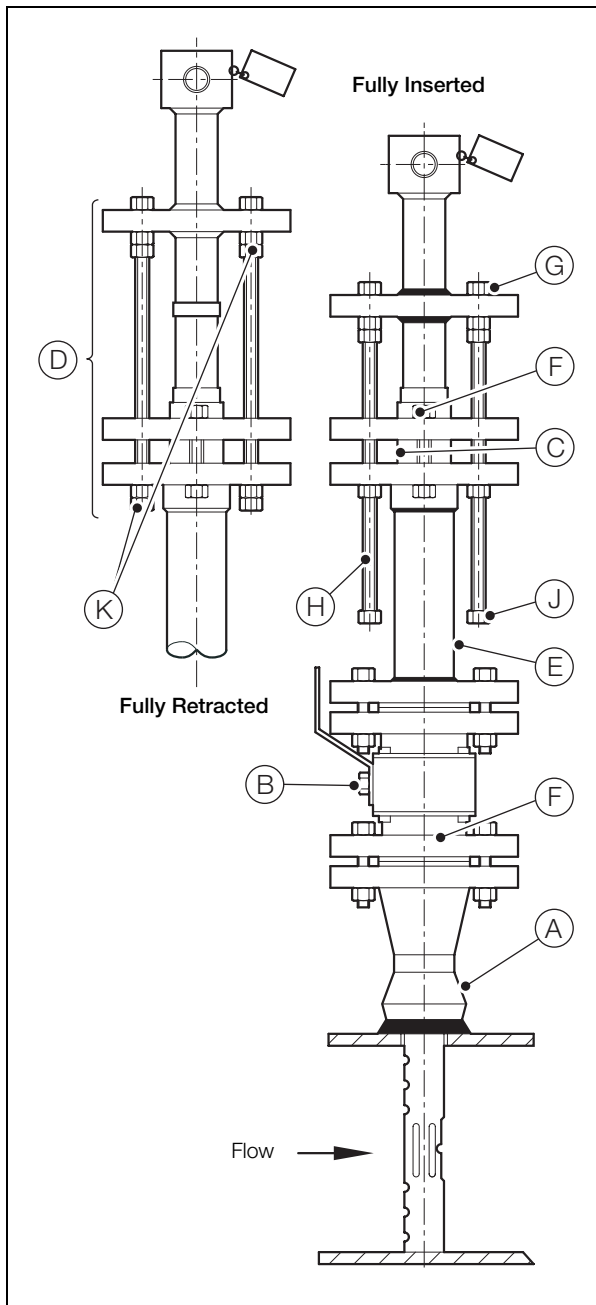

Fig. 2.15 Models H611, H711 and H811 Installation
2. Referring to Fig. 2.15:
- a. Position the flanged coupling (A) over the mark, ensuring the coupling is aligned perpendicular to the pipe axis and square to its plane with the flange bolt holes aligned according to standard practice.